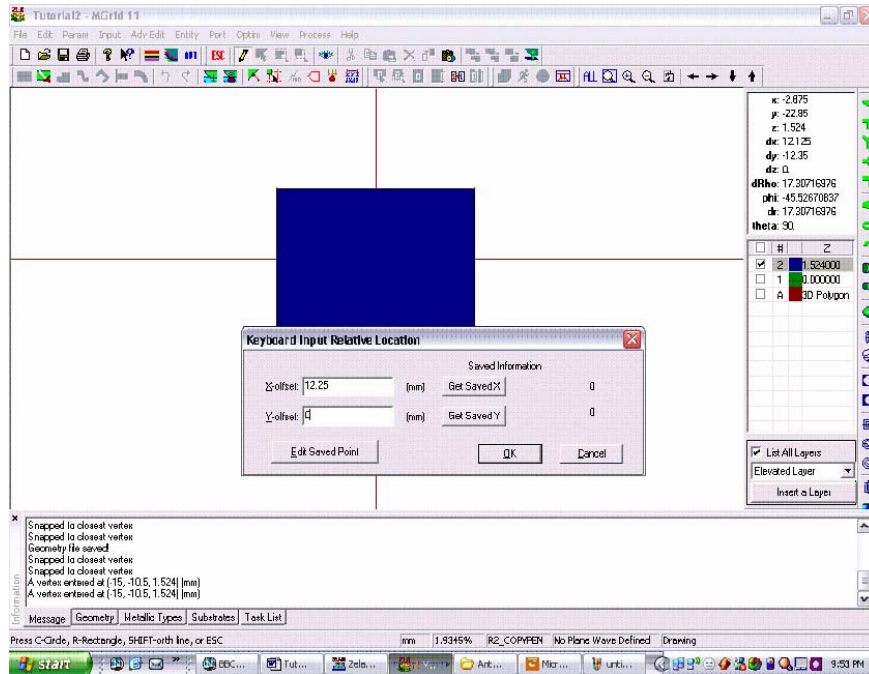

Figure 9
- 9) Press Shift+R. The “Keyboard Input Relative Location” menu pops up. Now that you have entered the absolute location of the first vertex, you can use that as a reference point and enter the location of additional vertices relative to the one entered previously. Enter 12.25 for the X-offset and -13 for the Y-offset values. Your screen should look like the one shown in Figure 9. Click on OK button and Click on YES button in the next menu that pops up.